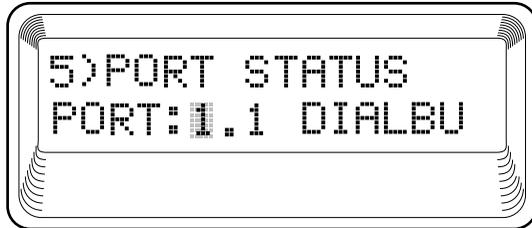

Figure 3-3
To display Figure 3-3 on the TSU 100, start with the cursor on Main menu item 1)STATUS and do the following: